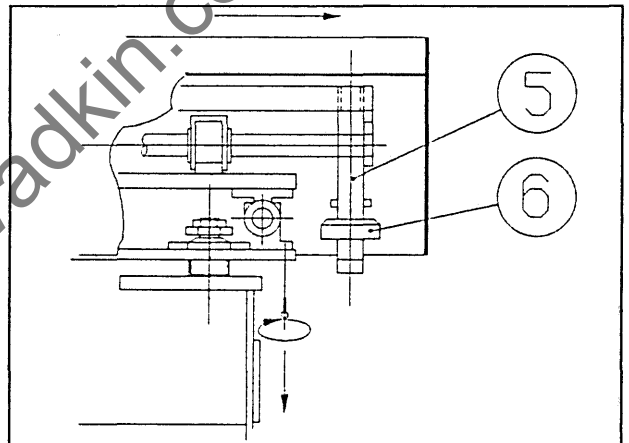

Fig. 2e
3) Pull the machine carriage forward so that the transit clamp bar [5] and restraining collar [6] clear the bottom carriage plate. (Fig. 2e)